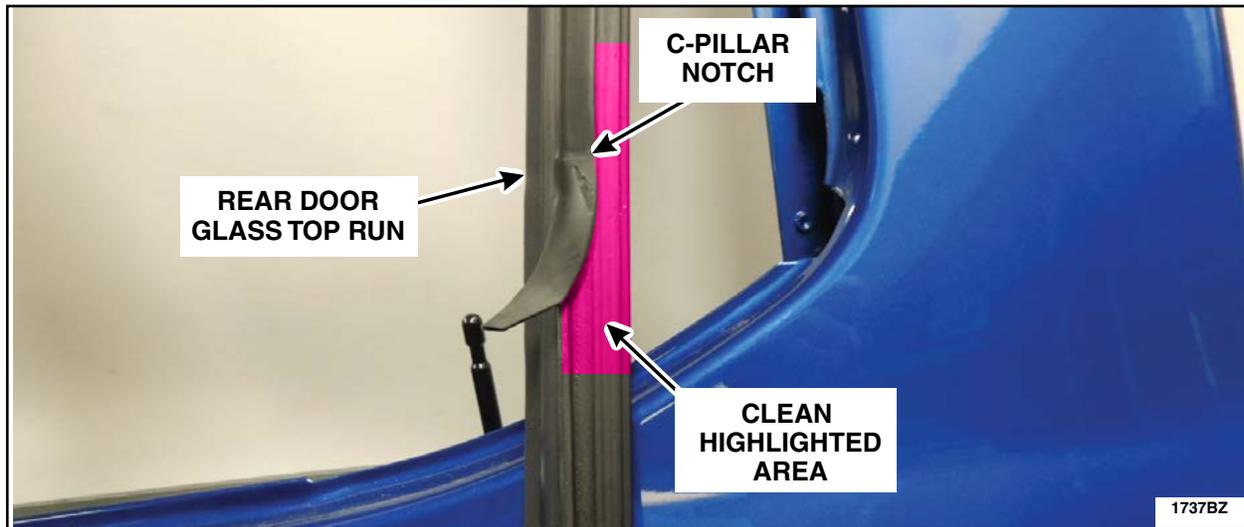

FIGURE 74
17. Clean the highlighted area of the rear door glass top run with isopropyl alcohol and a clean shop towel. See Figure 74.